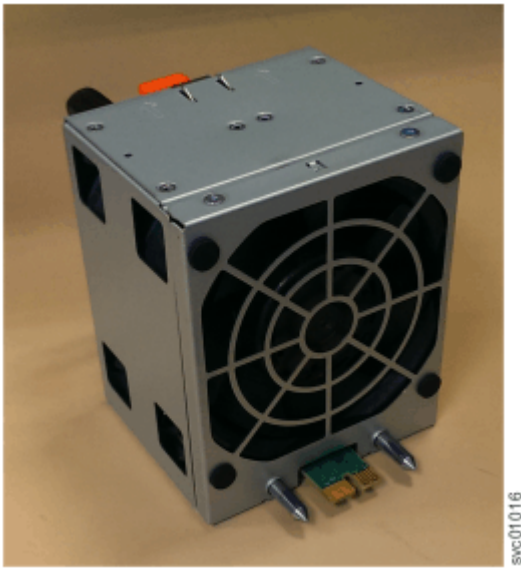

Figure 146. Fan module orientation
5. Hold the fan module with the release tab on top and the connector pin on the bottom, as shown in Figure 146 on page 186.